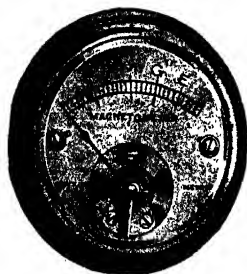

Fig. 142. Hoyt Magnetometer for Ford Cars
*Care of Ford Magneto.* Dirt will sometimes accumulate under the collector brush or on the collector ring and reduce the current output. As a guide to the operation of the Ford magneto, the Hoyt magnetometer, Fig. 142, has been devised. The calibration of this is purely arbitrary, the letters representing Poor, Medium, Good, and Excellent. Probably end play in the bearings is the most frequent cause of poor operation of the Ford magneto. This is due to wear of the main crankshaft bearings which permits the magnets to rotate at a greater distance from the coils than originally intended.